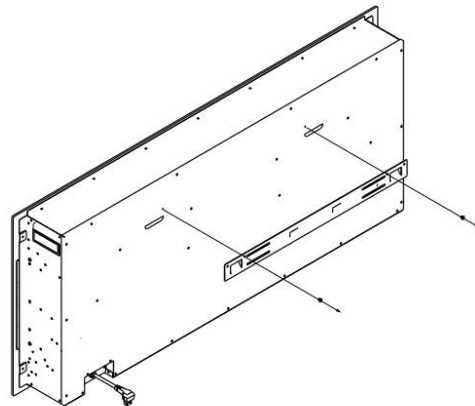

Fig.7
G. With the wall mounting bracket installed have two people lift the appliance up and insert the two hooks on the bracket into the two slots on the back of the appliance. See Fig.7